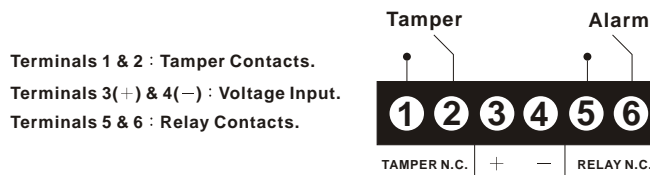

Figure 2 : Terminal Block
6. **Connect the wires**, using 20 - 22 AWG connection cable, to the terminal block as shown in Figure 2.